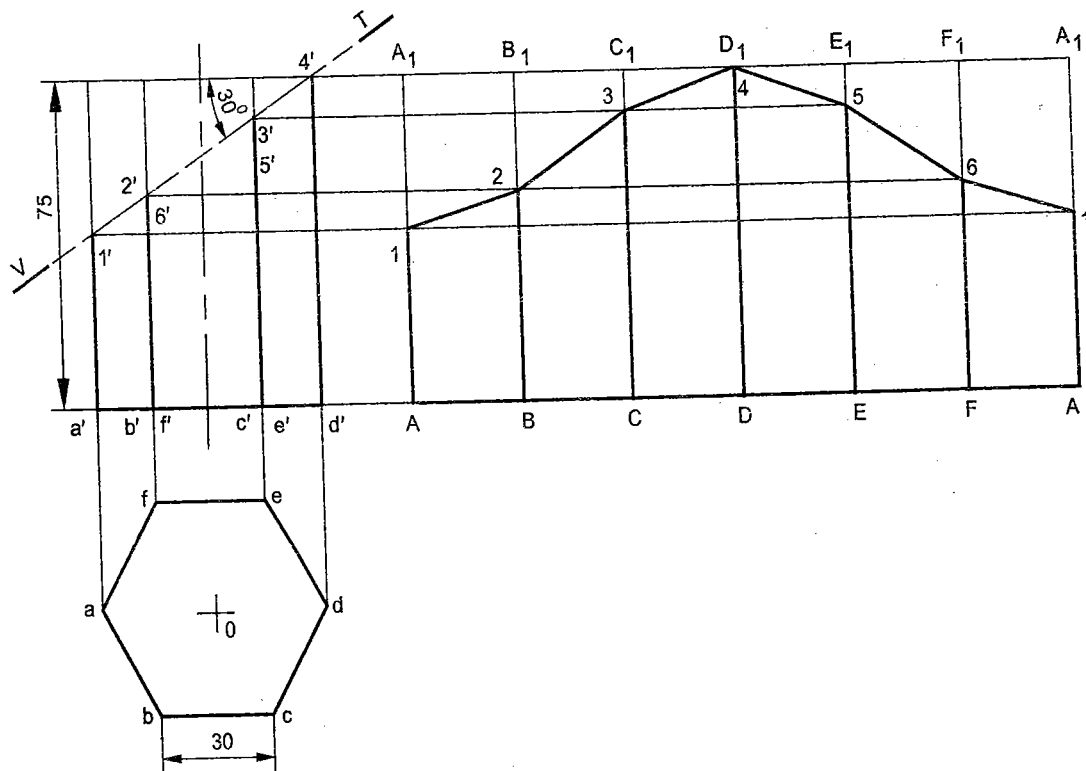

Fig.13.2
**Construction (Fig. 13.2)**
4. Repeat steps 4 to 6 of Construction: Fig. 13.2 and obtain the development of the cut solid.